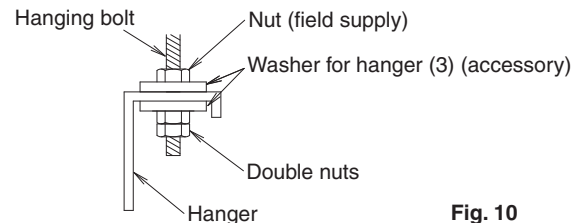

Fig. 10
(1) Fix the hanger to the hanging bolt. **(Refer to Fig. 10)**